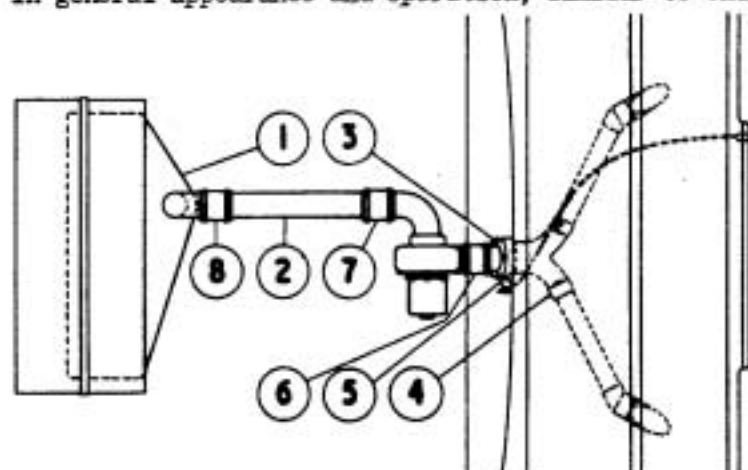

FIG. 3. IMPROVED TYPE DEMISTER SYSTEM.
The improved type demister system is shown in Fig. 3, and it will be seen that it is, in general appearance and operation, similar to existing types.
- 13) Fit the demister motor to the support tube as shown in Fig. 3, using rubber hose connection (6) and two jubilee clips provided. The outlet aperture of the demister motor MUST be placed as close as possible to the support tube, but sufficient clearance should be allowed to prevent contact due to oscillation. Pass the demister feed wire through the g